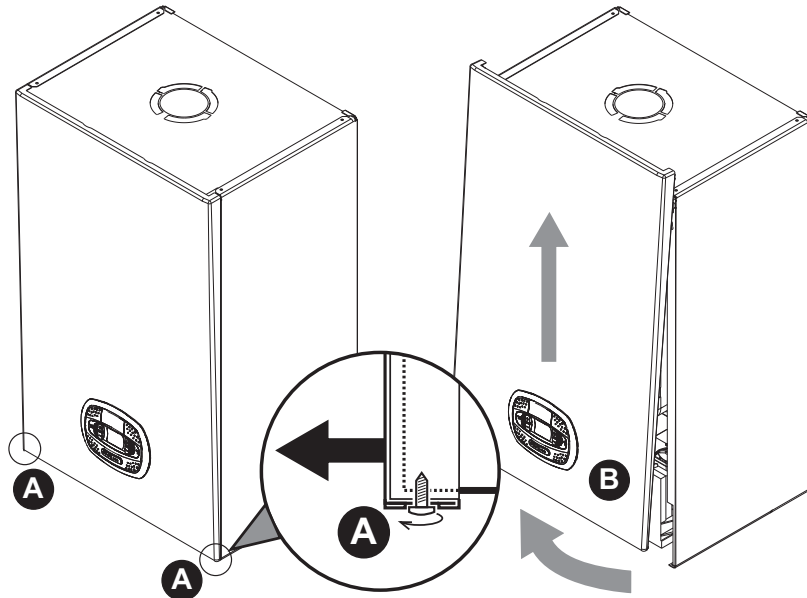

fig. 30- Front panel opening
1. Partially undo the screws **A** (see fig. 30).
- Pull up the security tab "1" of fig. 30 then remove both electrical connections to the pump "2".